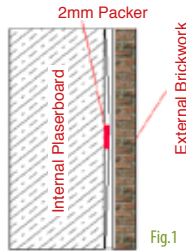

Fig.1
- It is therefore important that the installation of the door is plumb and square within the aperture, without twist or distortion between the frame and slab (see Fig 1), please check repeatedly during the installation.
- Step 6 When satisfied that the door closes correctly, fix the lock jamb in position ensuring that the middle of the frame (where the latch keep is positioned) is pushed outwards by approx 1mm to 2mm thus making sure that the top of the door shuts tightly in the frame and sits at least flush (see Fig 1).